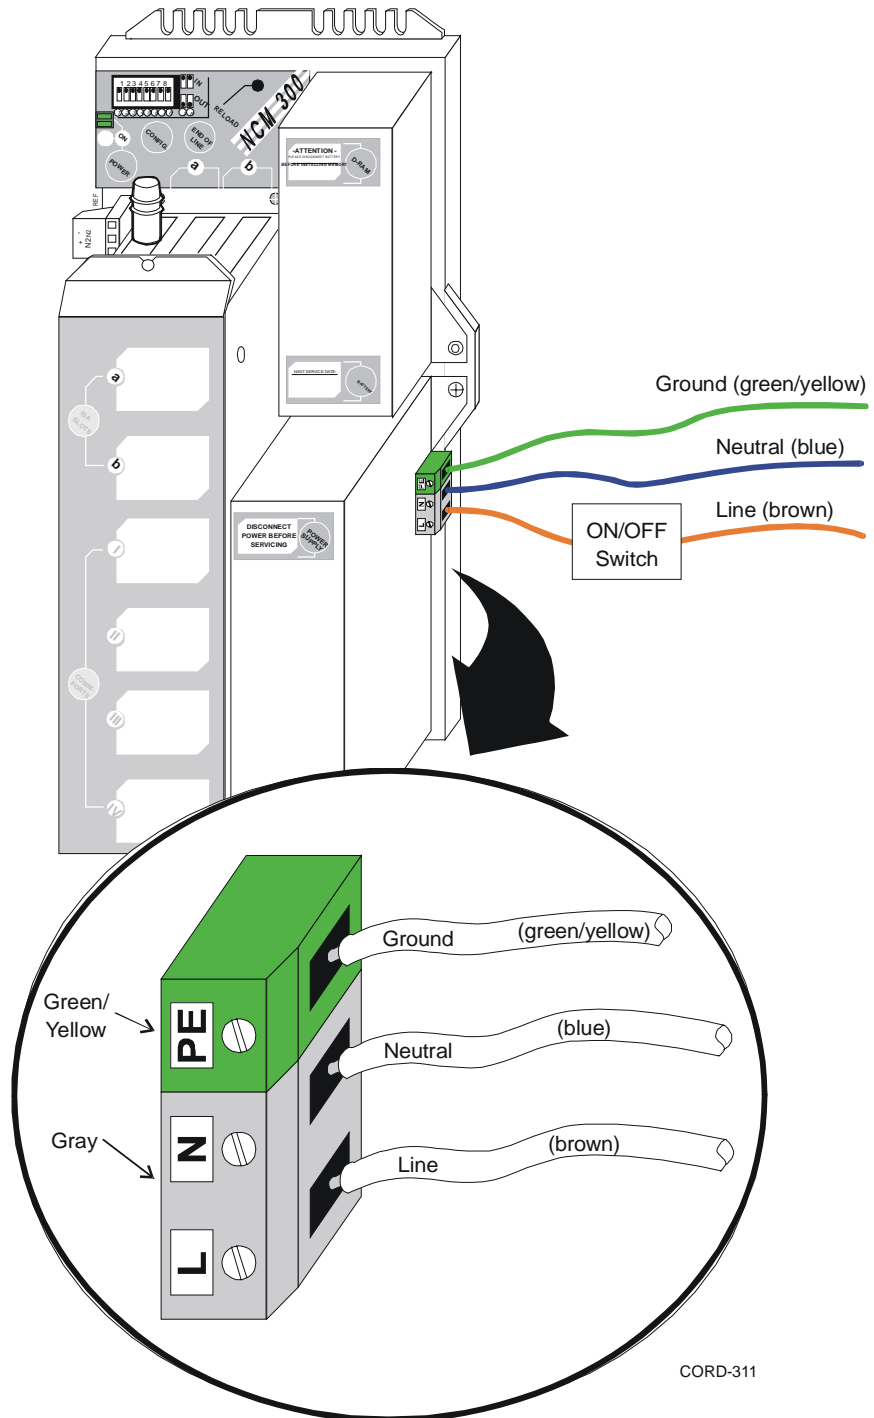

Figure 5: Wiring to Power Terminals of the NCM311 and NCM361
- Figure 5 shows how to wire the power connection into the NCM311 or NCM361.
Figure 5 shows how to wire the power connection into the NCM311 and NCM361.